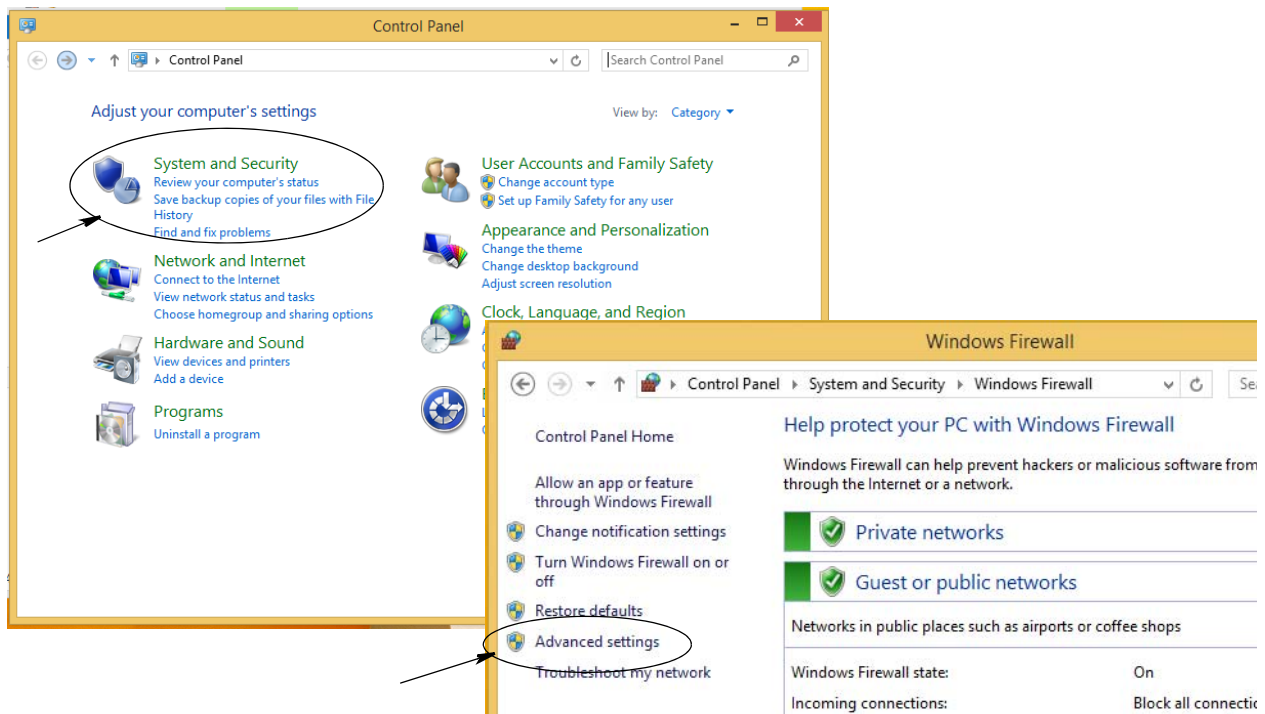

FIG. 43
2. Click on System and Security and find the Windows Firewall icon. Click the Advanced Settings link as shown in FIG. 43.